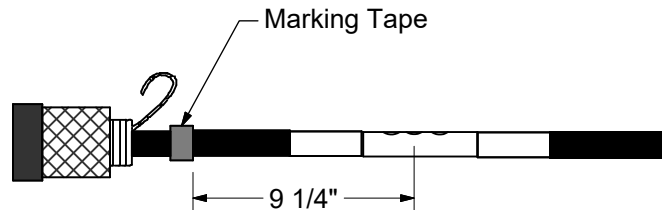

Figure 5
- C. Install several turns of marking tape onto the cable semi-con 9 1/4" from the center of the connector as shown in Figure 5. This tape will be used as a guide for positioning the splice body. The marking tape is to be installed on the same cable that the splice body is on.